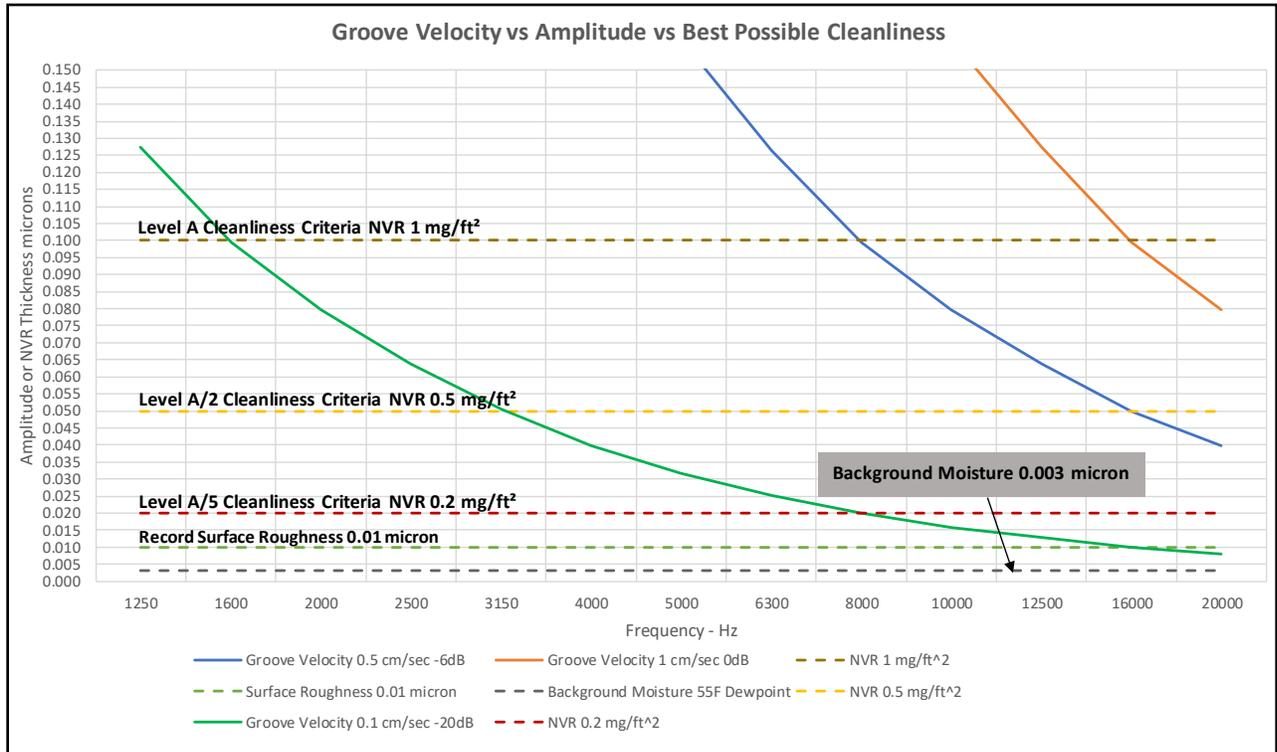

Figure 47 – Groove Velocity vs Amplitude vs Best Possible Cleanliness
- XI.7.1 My own experience implies that achieving the lowest level of any residue may be beneficial. Improved playback quality – better detail – less distortion has been noted during the dry winter months. Similar improvement was not noted with my digital sources. The only quantifiable variable was ambient relative humidity had decreased from the mid-50’s to the lower 30’s/upper 20’s percent (humidifier not used). Per **CHAPTER VI. MAINTAINING CLEANLINESS:**, my platter and mat are grounded as specified, and I had no static issues even with carpet and socks. The lower humidity will by **Table IX** result in a thinner moisture film, but the film theoretically is less than the record surface roughness as shown **Figure 47**. But the moisture film may only be enough to fill-in the surface roughness.
- XI.7.3 There are audio enthusiasts with very high-resolution systems in acoustically engineered rooms that can reveal details not otherwise achievable. For these individuals, the best achievable cleanliness level may yield acoustic benefits. Some people have very sensitive hearing and likewise can benefit from the best achievable cleanliness level. Consider what is written page 16 – of *UIUC Physics 406 Acoustical Physics of Music* @Professor Steven Errede, Department of Physics, University of Illinois at Urbana-Champaign, Illinois 2002 - 2017. *The Human Ear — Hearing, Sound Intensity and Loudness Levels (79) "The time-averaged, or RMS sound intensity threshold of hearing (@ $f = 1$ KHz) is: $\sim 2.5 \times 10^{-12}$ RMS Watts/m² = 2.5 RMS pico-Watts/m². **Individual people may hear better/worse than the average person, and so threshold of hearing from one person to another can vary as much as 1/10 or 10X this!!!"**.*
- XI.7.5 **Figure 47** shows the best possible cleanliness that can be achieved with certain limits as boundaries. The lowest is the water film at about 0.003 microns that forms from the air at 55°F dewpoint from **Table IX** . The best level of cleanliness is the inherent background noise of the vinyl record material that is a function of the material surface roughness which by the paper "*Disc cutting in theory, Hugh Finimore, Studio Sound and Broadcast Engineering, July 1975*" (36) has an equivalent amplitude of 0.01 micron (*this is better than a #8 Super Mirror Finish/Non-Directional Mirror Finish used to produce/polish stainless steel mirror*). Achieving a Level-A/2 NVR cleanliness of 0.5 mg/ft² (0.05-micron layer equivalent) 'should' have some benefit in lowering the background noise floor for the silent track, but noting the very limited audio frequencies that may be affected at 0.5 cm/sec (-6 dB) and above. But, if a simple Gaussian (normal) distribution is applied to a nominal NVR of 0.5 mg/ft² = 0.05-microns, the actual film thickness could realistically vary from as low as 0.003-microns to as high as 0.11-microns. There is a cleanliness Level-A/5 (0.2 mg/ft² = 0.02 microns), but much lower and you are now approaching the surface roughness of the record and mostly below any recorded frequency/amplitude except for the silent track. It is possible to get the record the too clean. Some very small amount of benign residue 'may' actually be beneficial since it may fill-in the surface roughness yielding a lower background noise floor.